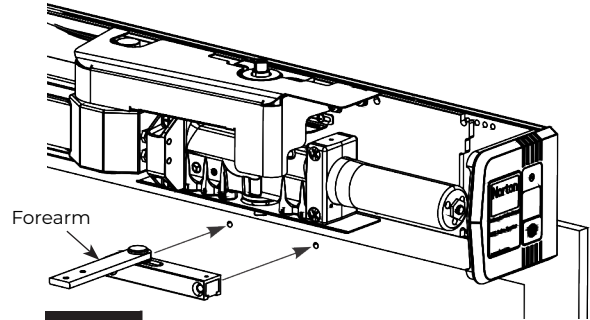

Figure 26
- Using previously prepared holes in door, install two (2) 1/4-20 x 1-5/8" screws through shoe and into sex bolts. (Figure 26)